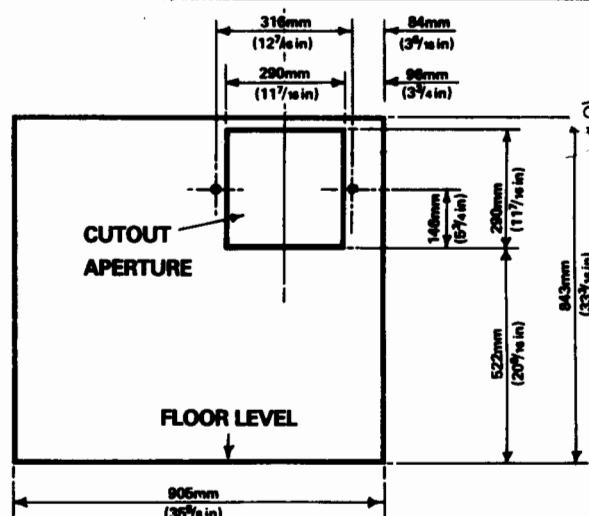

Fig. 5b – Flue Template Balanced Flue
Templates of the terminal aperture position are printed on the appliance carton box. See Fig. 5b.
1. Remove the carton, and using the template printed on the carton, mark out the position for the flue duct assembly aperture and carefully cut a hole through the brickwork to suit. See Fig. 5b. Ideally, the hole should just clear the flue duct assembly. Any oversize hole must be rendered/lined internally on the inside wall at this stage (particularly so if a cavity wall), otherwise access sealing will not be possible afterwards. Allow time for any wall lining to dry.